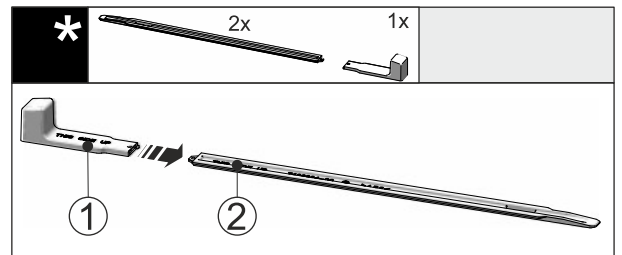

Fig. 50
- ▶ Attach the installation handle Fig. 50 (1) to the levelling rail Fig. 50 (2).